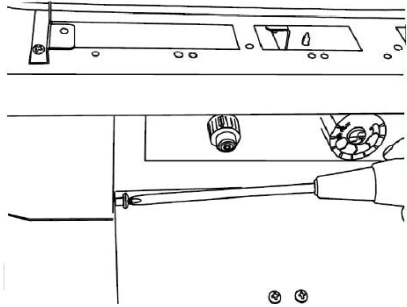

Figure 32 - Control Panel Door
16. Remove screws securing control panel door (see Figure 32).